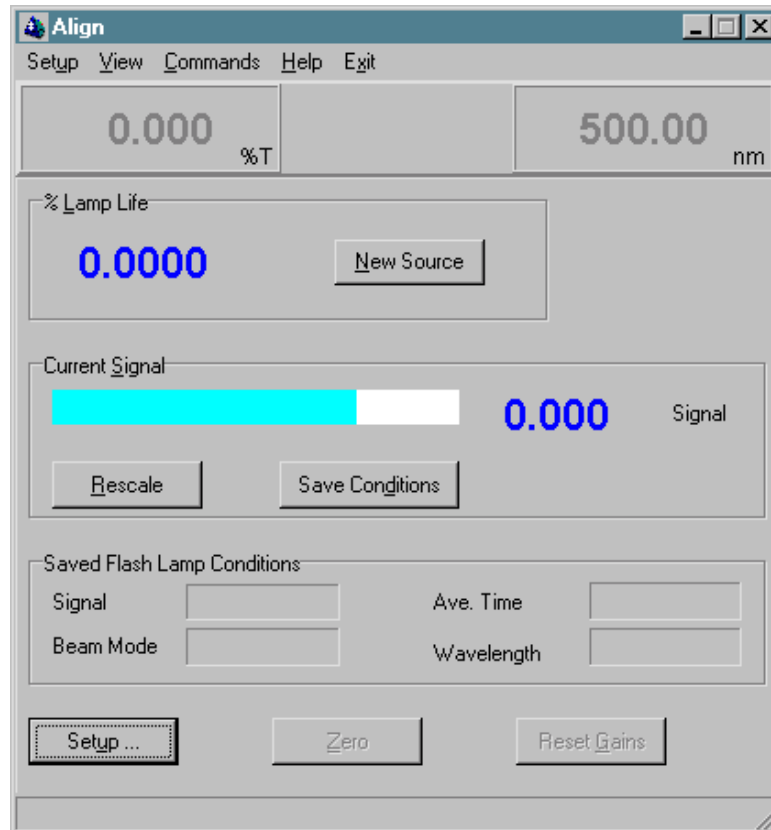

Figure 3-2 Align window
5. In the Align window (see Figure 3-2), monitor the Current Signal bar as you use the supplied hexagonal wrench to slowly adjust one of the adjustment screws at the front of the instrument. If the length of the Current Signal bar decreases, slowly turn the screw in the other direction. (You can expect to